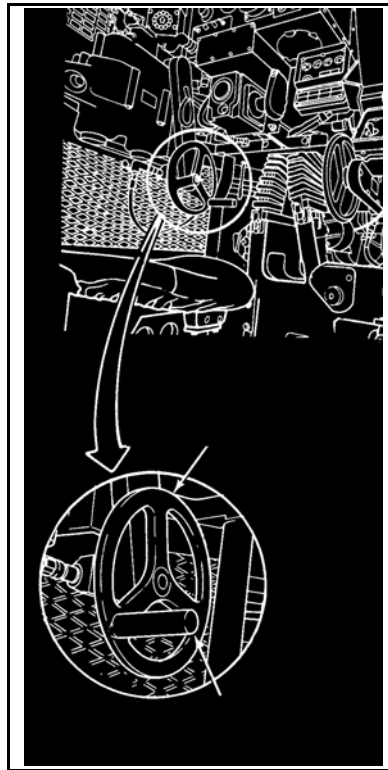

Figure 5. Turret traverse handwheel.
- 4. Perform a function check on the 25-mm automatic gun using the trigger switch in the handle on the turret traverse handwheel (Figure 5, page 3-120).